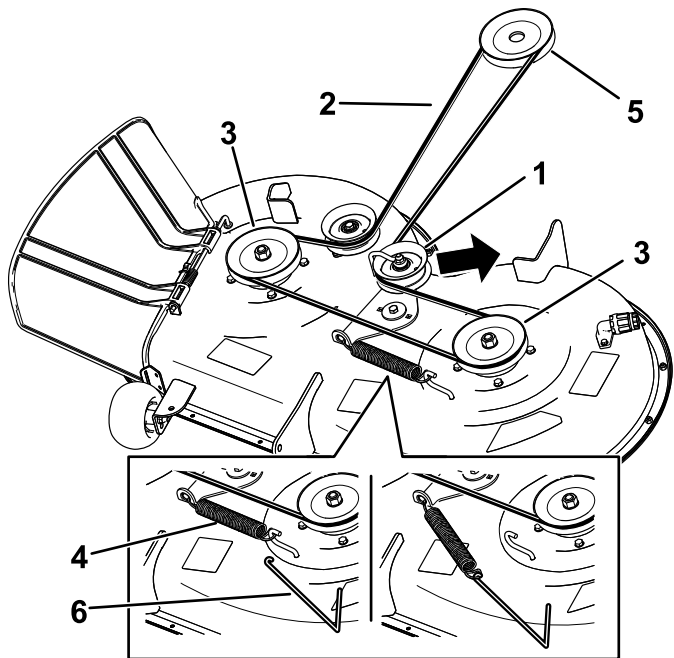

Figure 56
2. Screw (3)
6. Using a spring-removal tool (Toro Part No. 92-5771), remove the idler spring from the deck hook to remove tension on the idler pulley, and roll the belt off the pulleys (Figure 56).
7. Route the new belt around the engine pulley and mower pulleys (Figure 56).
8. Using a spring-removal tool (Toro Part No. 92-5771), install the idler spring over the deck hook and place tension on the idler pulley and the mower belt (Figure 56).